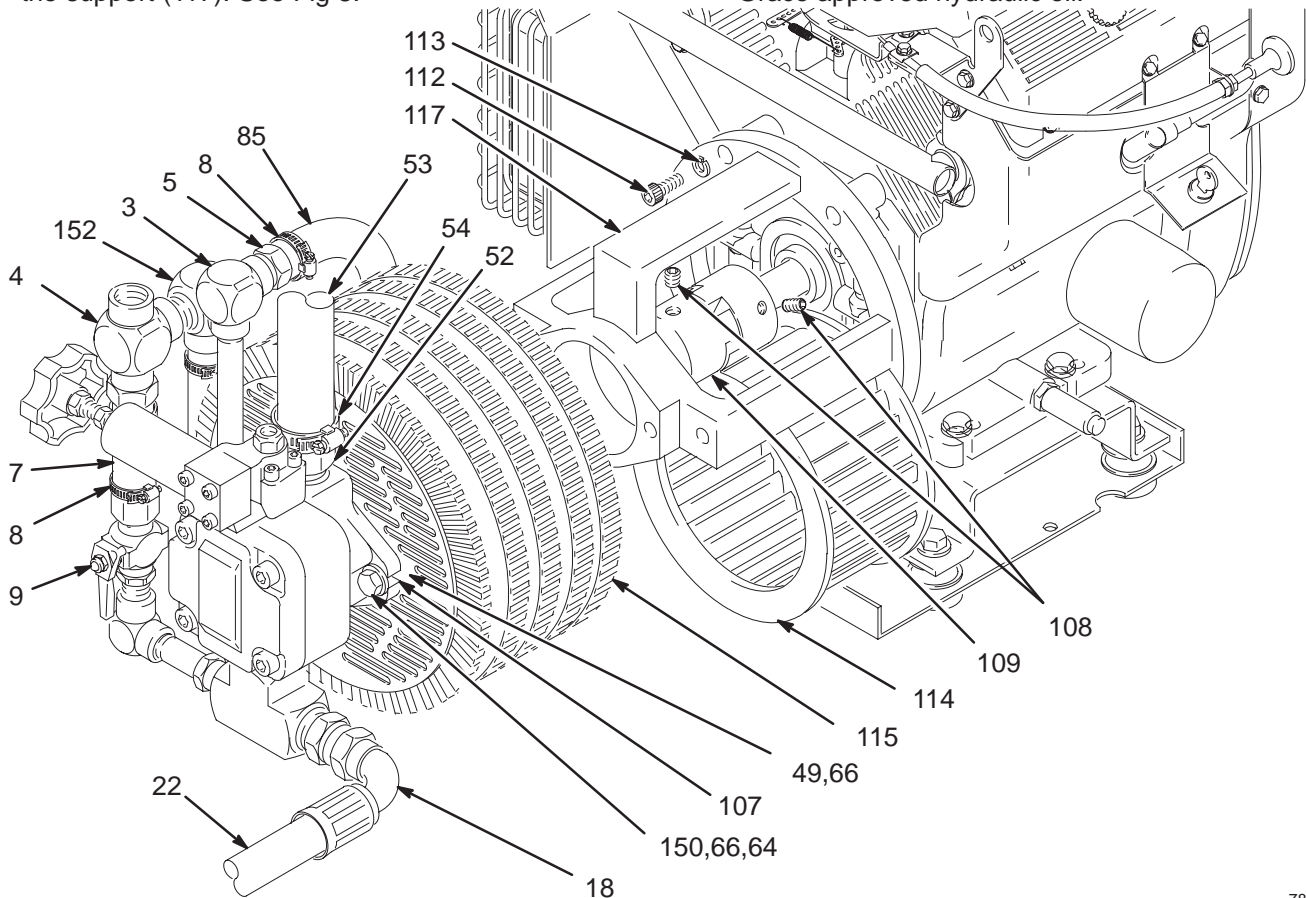

Fig 8
3. Disconnect the hose (7) from the bypass valve (9) by loosening the hose clamp (8). See Fig 8.
4. Loosen the hose clamp (8) and pull the hose (85) off the hose insert (5) near the elbow (3). See Fig 8.
5. Loosen the hose clamp (54) on the hose (53) just above the hydraulic pump (107). See Fig 8.
6. Loosen the tube fitting nut (18) of hose (22). See Fig 8.
7. Remove the two capscrews (150), lockwashers (66) and washers (64) holding the pump (107) to the support (117). See Fig 8.
3. Disconnect the cooler to reservoir return hose (7.) by loosening the hose clamp (8). See Fig 8.
4. Remove the cooler capscrews (49) and lockwashers (66). See Fig 8.
5. Remove the fan guard (23, page 24). See Fig 8.
6. Pull the cooler (115) straight out.
8. Inspect the blower wheel (114) for wear. See Fig 8. If it needs to be replaced, follow Steps 8a–8e.
- b. Remove the capscrews (112) and lockwashers (113) holding the pump support (117) to the engine and pull the support off. See Fig 8.
- d. Install a new blower. Secure the pump support (117) to the engine. See Fig 8.
10. Fold the flaps of the pad (116) toward the cooler fins and install the fan guard (23, page 24), capscrews (49) and lockwashers (66). See Fig 8.